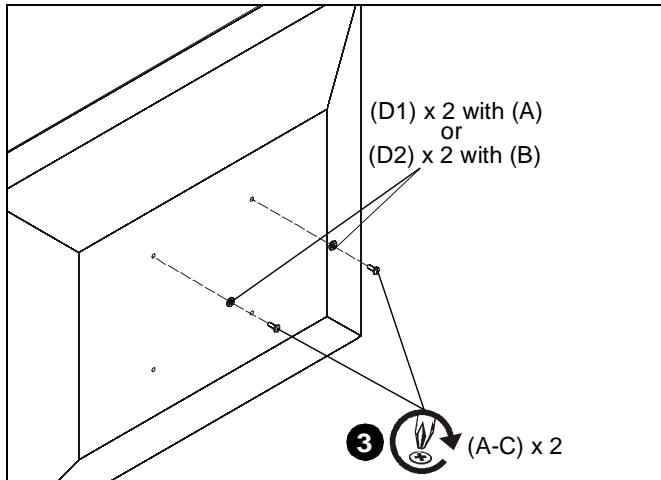

Figure 7
3. Install two selected screws (A-C) into upper two holes on back of display. (See Figure 7)